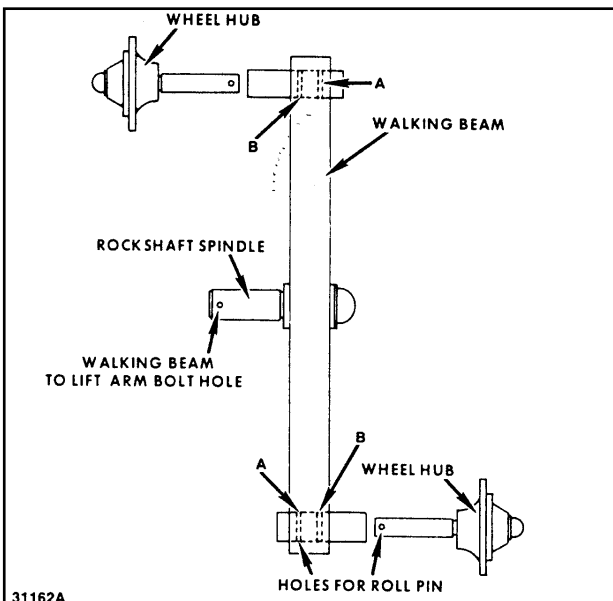

Figure 3-8 - Walking Beam and Hubs
- 3-7.1** Insert wheel spindles into walking beam. Align holes and install 3/8" x 2-1/2" roll pin, one in each wheel spindle (**See Figure 3-8**).